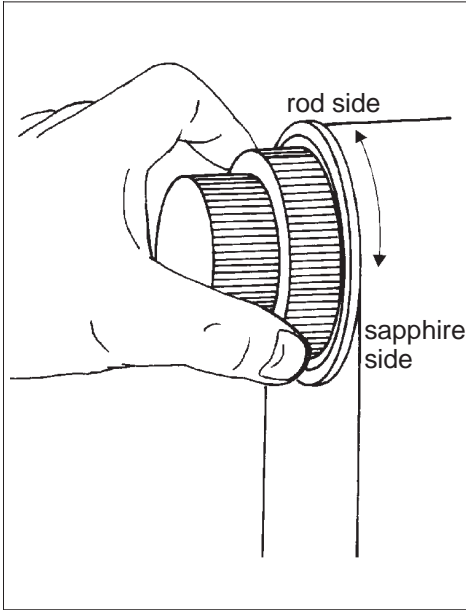

Fig. 4-5b: Inner knurled knob
- Turn inner knurled ring (2) clockwise to the stop Fig. 4-5b). The sapphire-side specimen is inserted.